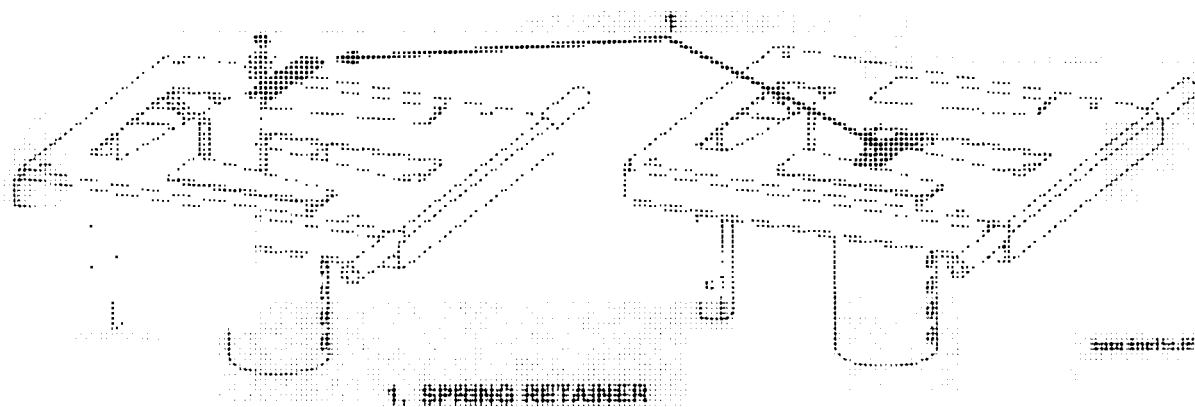

FIGURE 21.
6. Install spring retainer plate on frame of seat bottom as indicated in FIGURE 21.